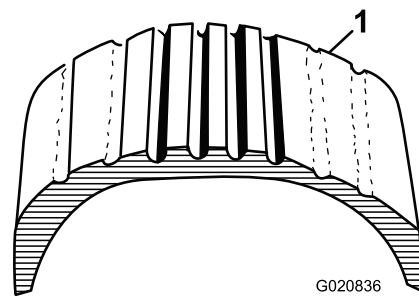
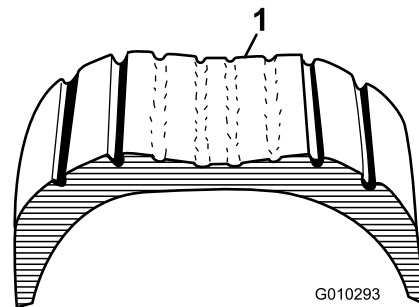

Figure 12
Figure 13
1. Visually inspect the tires for damage and wear (Figure 12 and Figure 13).